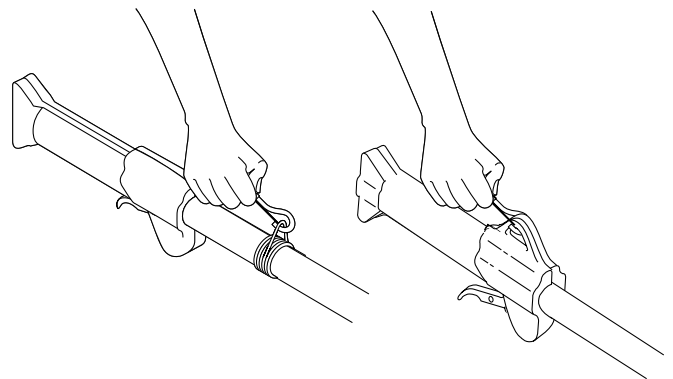

Fig. 5
3. Snap it on to the support fitting (Fig. 5).